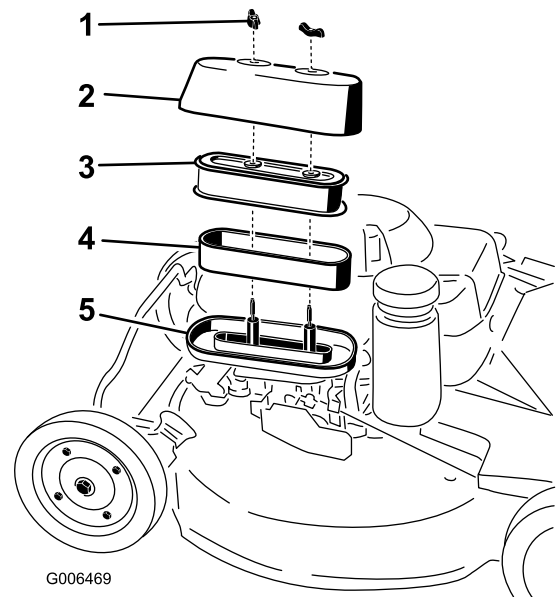

Figure 21
3. Remove the 2 nuts that secure the cover (Figure 21).
5. Remove the foam and paper elements from the base (Figure 21).
6. Remove the foam element from the paper element (Figure 21).